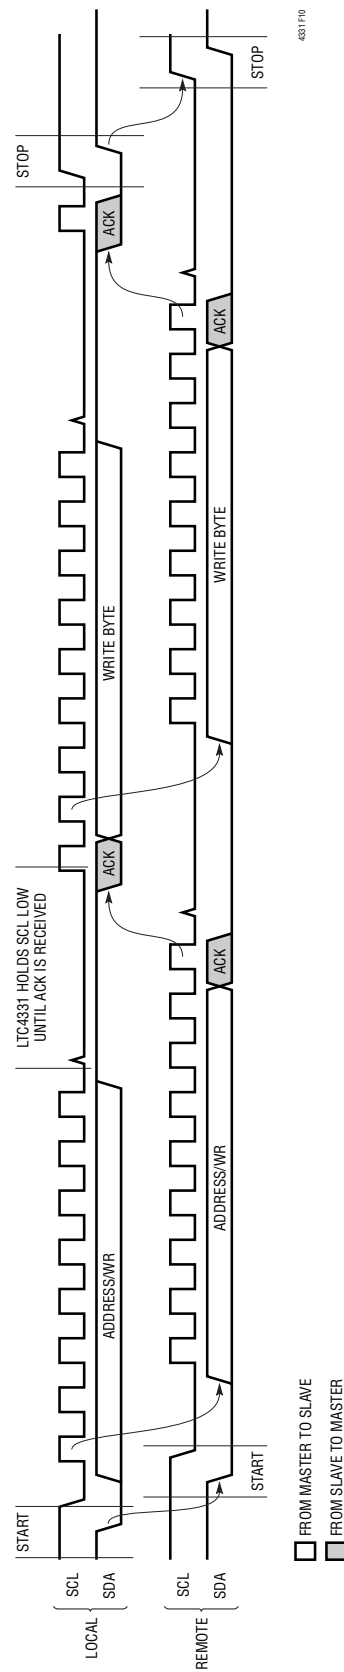

Figure 10. Full Write
device, configured for local mode, encodes and transmits the captured I²C events to the remote I²C network where they are recreated on the remote I²C bus. If additional LTC4331 devices configured as slaves, REMOTE set low, are connected to the remote I²C network, they also transmit the events to the 3rd tier I²C network, and so on. The local side LTC4331 always holds SCL low on the 9th bit waiting for an (N)ACK response from the remote slave device(s). When the local side LTC4331 receives the response, SCL is released with the response data set on the I²C bus. If the R/W bit is set to Write, the bus turns around after the ACK and the local LTC4331 switches back to slave-receive mode in order to capture the incoming write data. After the 8th SCL clock, the bus and link direction reverse in order to retrieve the (N)ACK response from the remote slave device. This sequence continues until the master sends a START or STOP condition. Data to be transferred across the link is stored in a buffer if the local I²C transaction is faster than the effective link rate. See Figure 10.